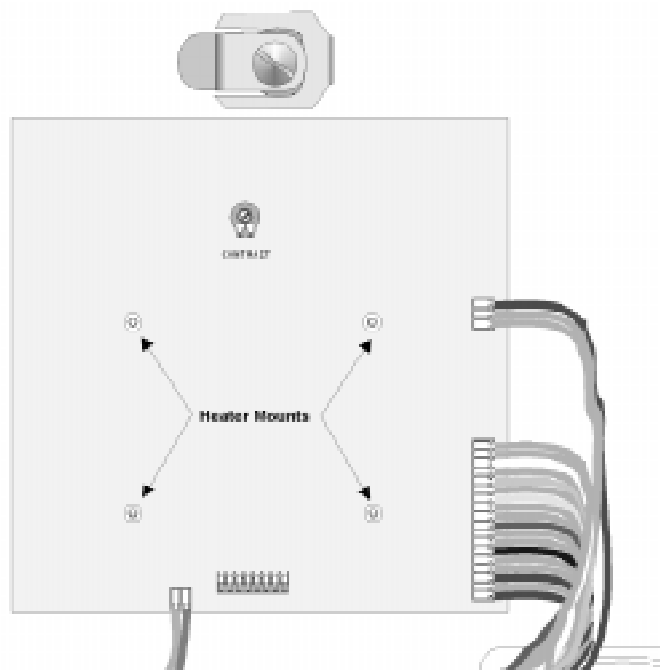

Figure 3-22: Keypad Circuit Board Retaining Nuts
1. Remove the four #6 nuts that retain the keypad circuit board. (See Figure 3-22.)